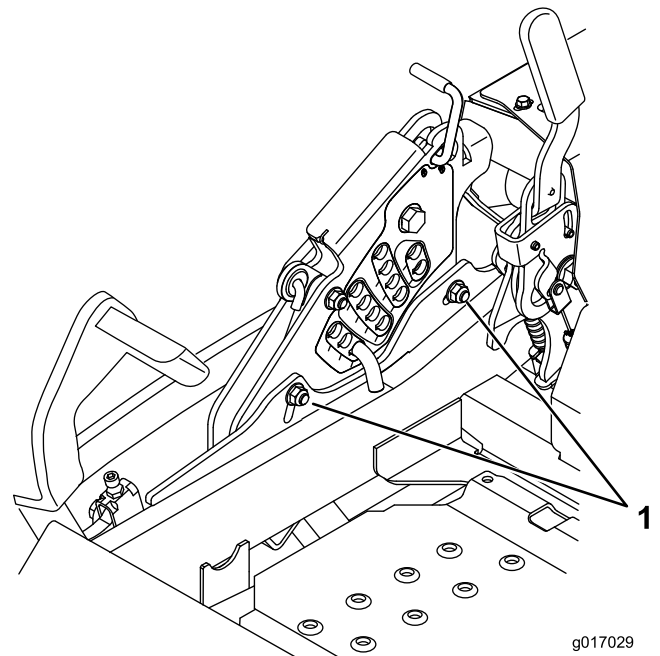

Figure 90
11. To adjust the single-point system, loosen the 2 bolts at the bottom of the height-of-cut plate (Figure 90).
13. Tighten the 2 bolts at the bottom of the height-of-cut plate (Figure 90). T